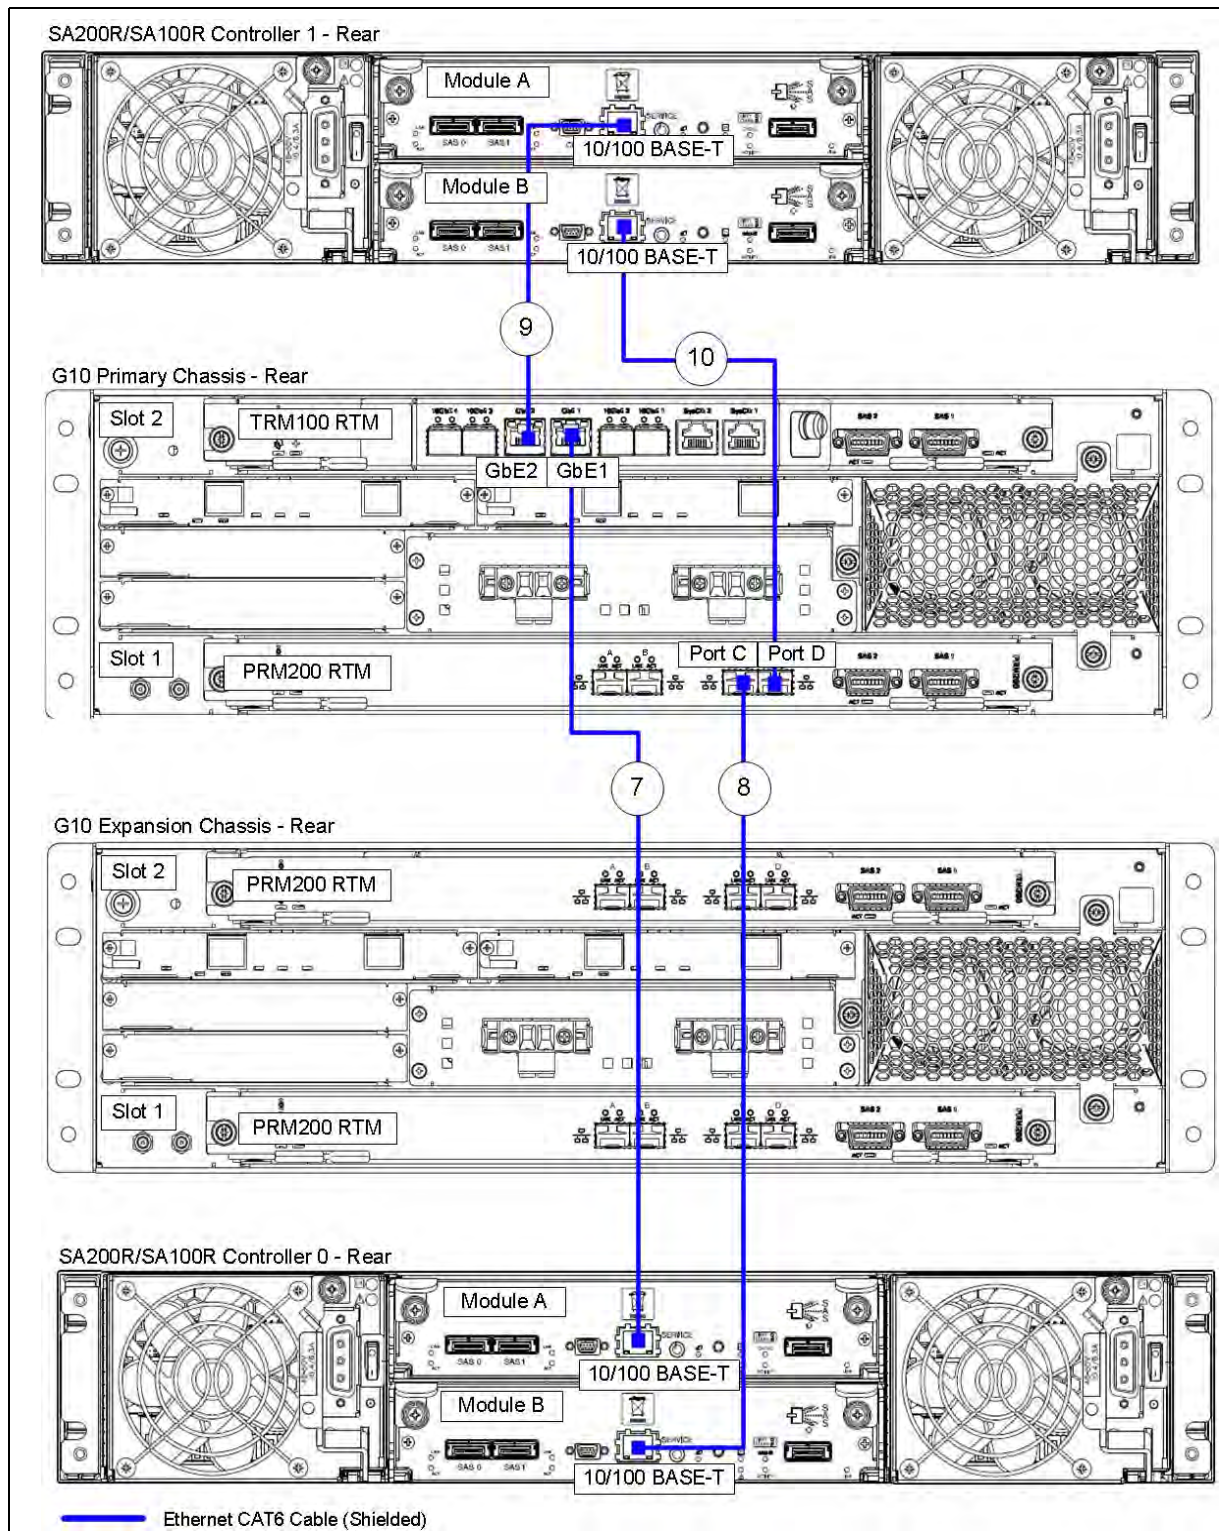

Figure 3.19 - Ethernet Connections - G10 to TWO Controllers ONLY
5. To connect Ethernet to **ONE** controller **ONLY**, perform the following actions. For Ethernet cabling for **TWO** controller configurations, refer to Figure 3.19 and Table 3.15.
- Use Figure 3.19 and Table 3.15 to connect Ethernet cables.